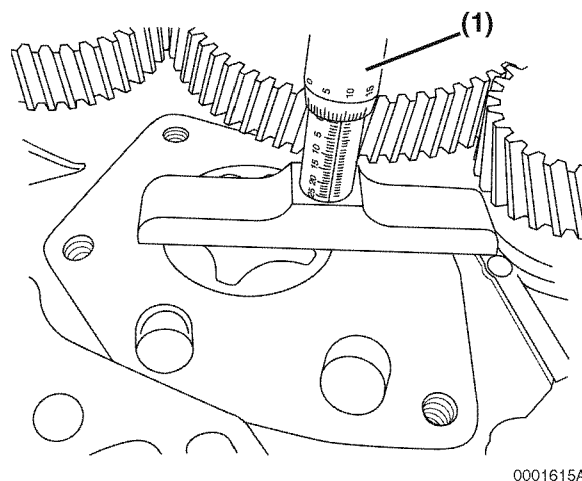

Figure 9-27
Determine the side clearance of the outer rotor across the pump cavity. Measure the depression using a depth micrometer (Figure 9-27, (1)).